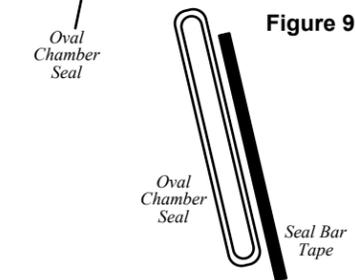

Figure 9
5. Set a new Oval Chamber Seal from the Maintenance Kit (Figure 9) on the groove in the Vacuum Chamber. Work the seal into the groove with your fingers until done.
6. Remove the backing from a new strip of Seal Bar Tape from the Maintenance Kit (Figure 9). Be careful not to allow the Seal Bar Tape to contact anything including itself while the adhesive side is exposed.